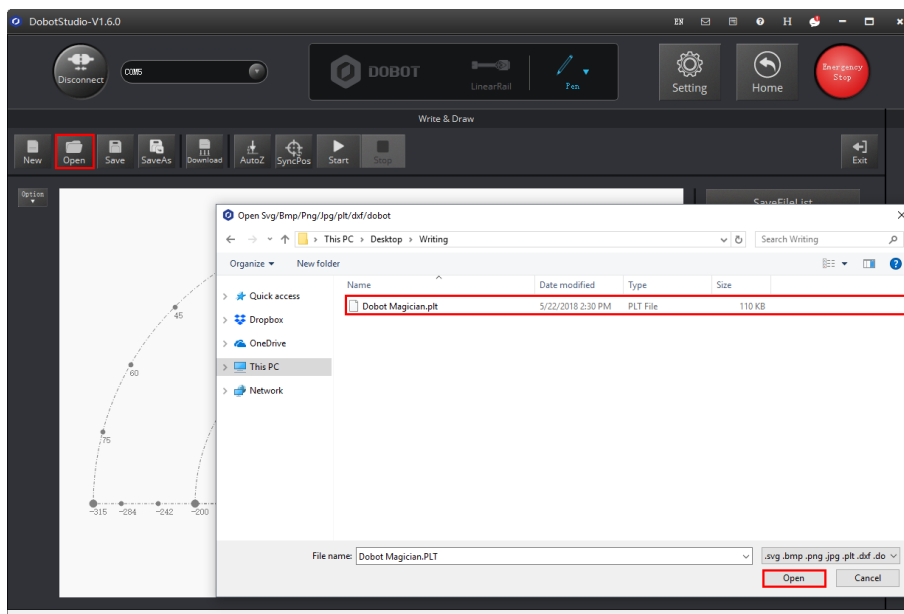

Figure 5.70 Open a PLT or SVG file
- Click **Open** on the **Write & Draw** page to import a built-in PLT or SVG image file from the DobotStudio installation directory *InstallatonDirectory\DobotStudio\config\prefab\system\source*, as shown in Figure 5.70. You can also import your custom PLT or SVG image file.